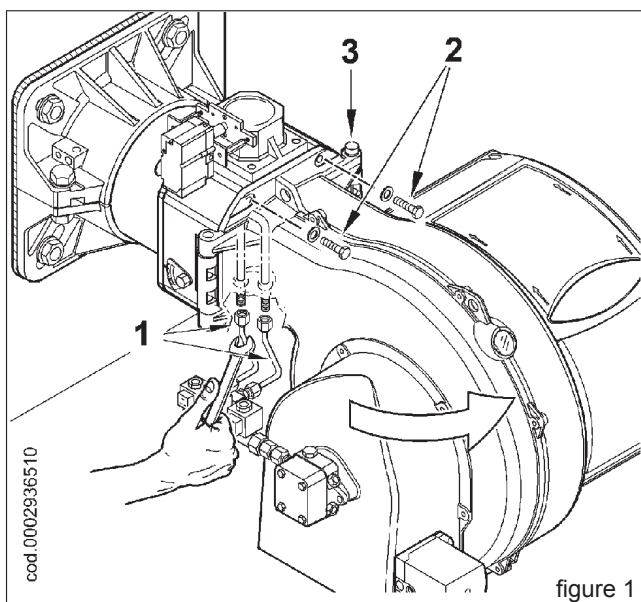

figure 1
- 2) Unscrew screws 2 (No.4) and turn the burner around pin 3 in the hinge (figure 1).